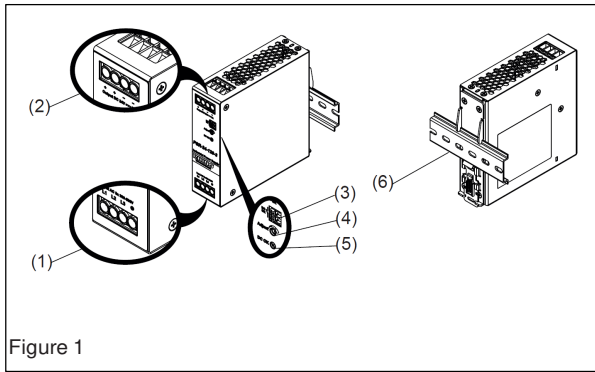

Figure 1
2. Device description (Fig. 1)
4.1. Input connection (Fig. 1, Fig. 6)
Use L, N and PE connections of input terminal connector (see Fig. 1 (1)) to establish the 3 x 380-500VAC connection. The unit is protected with internal fuse (not replaceable) at L1, L2 and L3 pins, which have been tested and approved on 20A (UL) and 16A (IEC) branch circuits without additional protection device.
4.2. Output Connection (Fig. 1 (2))
Use the "+" and "-" screw connections to establish the 24 VDC connection. The output provides 24 VDC. The output voltage can be adjusted from 24 to 28 VDC on the potentiometer. The green LED DC OK displays correct function of the output (Fig. 1 (5)). The device has a short circuit and overload protection and an over voltage protection limited to < 35 VDC.